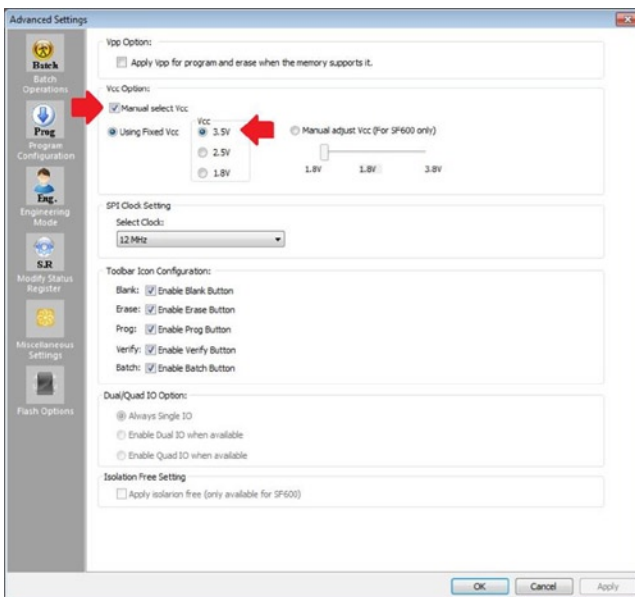

Figure 2-17. Configuring the DediProg SF100 to Vcc 3.5V
3. Click **Configuration** and change the **Vcc** option to **Manual**. **Select Vcc and 3.5V**; this will save a lot of problems due to flash error. Click the OK button, as shown in Figure 2-17.